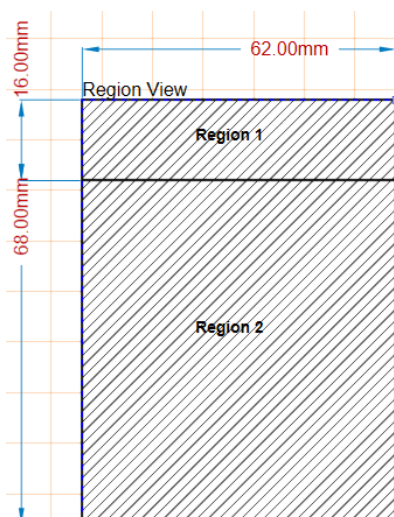

Figure 15: FPIC Air Cooled Module Regions
1. Figure 15 shows the recommended placement of the carrier connector along the edge of the PCB.